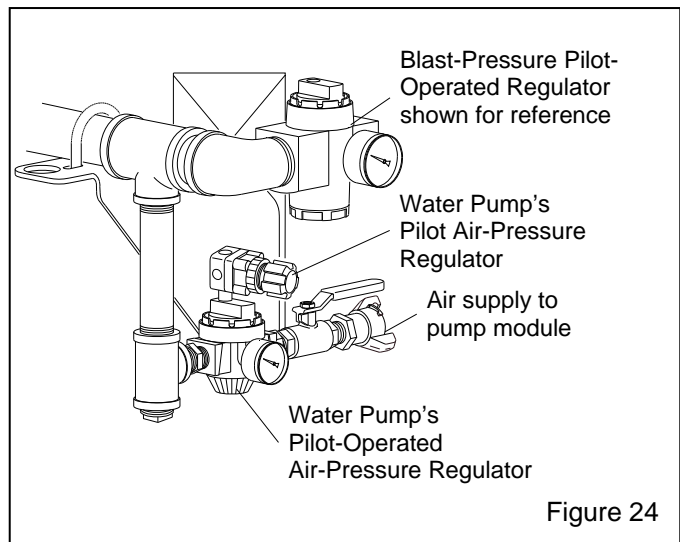

Figure 24
5.5 Water Pressure, Figure 24
5.5.1 Water pressure is controlled using the pilot regulator located on the blast machine piping as shown in Figure 24.